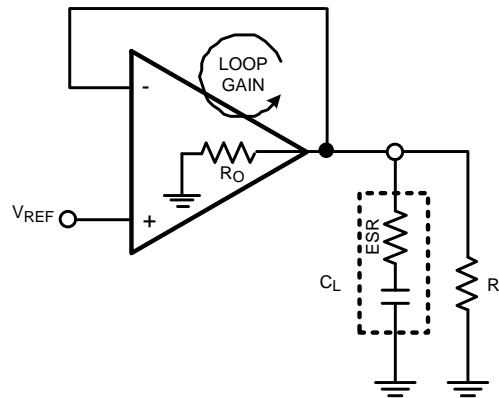

Figure 19. Simplified Model of Regulator Loop Gain Components
Figure 19 shows a basic model for the linear regulator that helps describe what happens to the output signal as it is processed through its feedback loop; that is, describe its loop gain (LG). The LG includes two main transfer functions: the error amplifier and the load. The error amplifier provides voltage gain and a dominant pole, while the load provides a zero and a pole. The LG of the model in Figure 19 is described by the following equation: